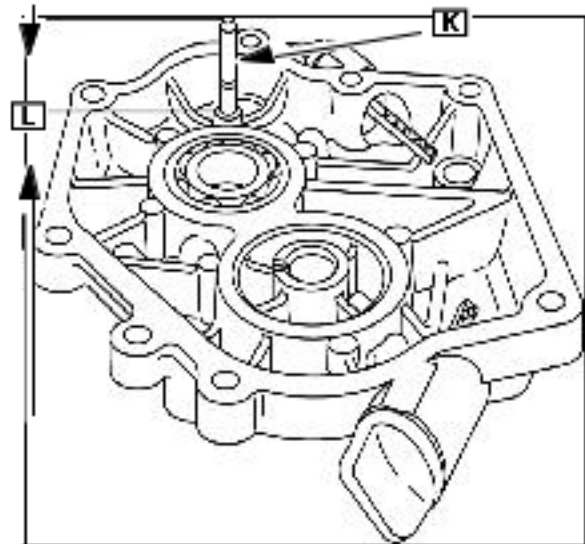

Fig. 18
Press either end of the new governor gear shaft (K) into the inside of cylinder cover from the inside until shaft is 1.220 - 1.222 in. (30.99 - 31.04 mm) high (L) from boss, Fig. 18.